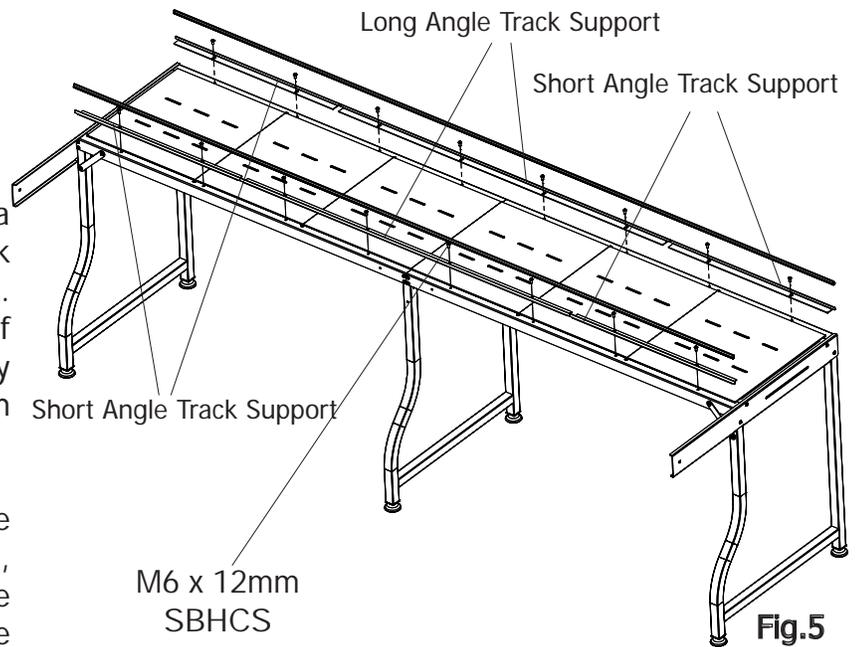

Fig.5
5-1: Lay a Short Angle Track Support on a table support, aligning the holes in the track support with the holes on the table support. The sides without holes are on the outside of the frame, see Fig. 5. For a crib size, use only the long track supports, and assemble them the same way as king size frame.
5-2: Attach the Track support to the table support by screwing (2) M6 x 12mm SBHCS, see Fig. 5. For the crib size frame, use the Long Angle Track Support only and assemble the same as king size frame.
5-3: Repeat Step 5-2 with the Long Angle Track Support and the other Short Angle Track Support. Be sure they lie in a straight line. See Fig. 5.